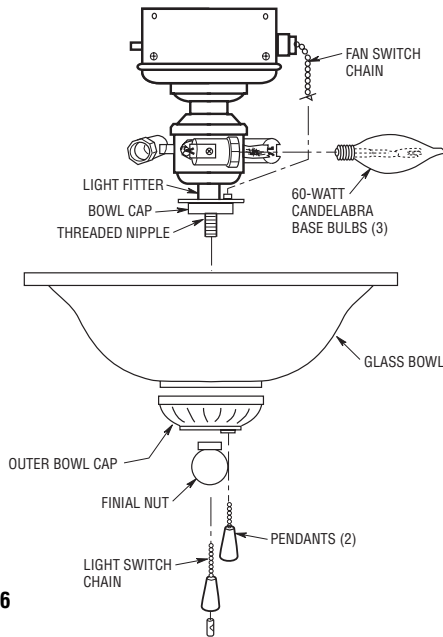

Figure 16
- 6. Install three 60-watt (maximum) candelabra base light bulbs (supplied) into the light fitter sockets (Figure 16).
- 7. Remove the finial nut and outer bowl cap from the light fitter (Figure 16).
- 8. Pass the fan switch chain through the bushing in the bowl cap (Figure 16).
- 9. Position the glass bowl over the threaded nipple and seat bowl on bowl cap (Figure 16). Pass the fan pull chain through the bushing in the outer bowl cap and install the cap on the threaded nipple. Install nut finial finger tight.